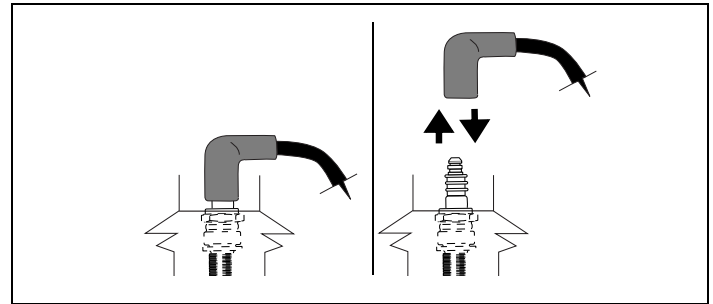

Figure 38. Disconnecting/Connecting Spark Plug
1. Carefully disconnect spark plug wire and keep it away from spark plug. See Figures 38 and 39. See "G. Avoid Accidental Starts" instructions on page 2. Afterward, continue reading instructions below.
15. Carefully disconnect spark plug wire from grounding post, if provided. See Figures 38 and 39 on page 18. See "G. Avoid Accidental Starts" instructions on page 2. Afterward, continue reading instructions below.
16. Carefully re-connect spark plug wire to spark plug. See Figures 38 and 39 on page 18.